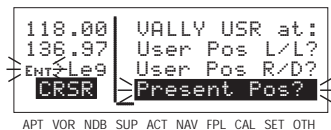

Figure 5-19
4. Move the cursor down to the fourth line, over **Present Pos?** (figure 5-19).